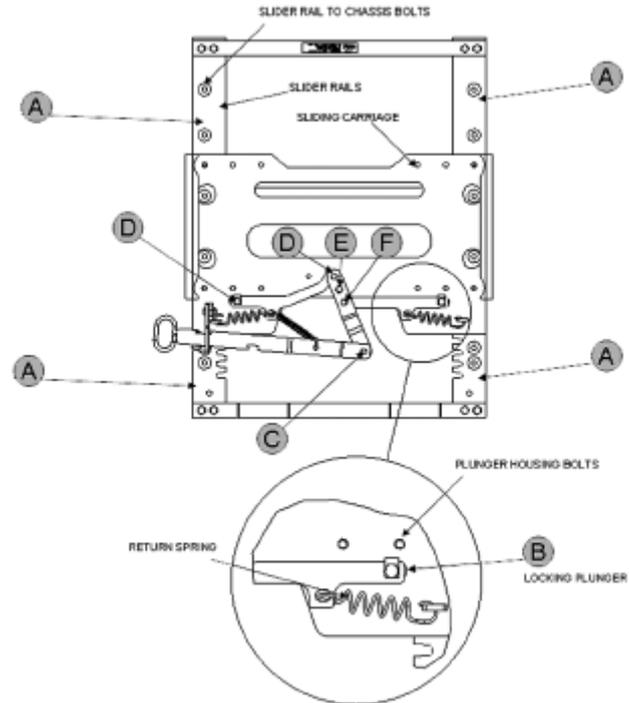

Figure 7 - Labelled slider carriage
- The slider rails (A), locking plungers (B) and release mechanism (C to H) should be well lubricated using a thin ISO22 Inhibitor oil. DO NOT USE GREASE because of its tendency to clog with road dirt. (See Figure 7 for lubrication points).
2. Lubricate with clean oil, points A to H as shown in Figure 7.